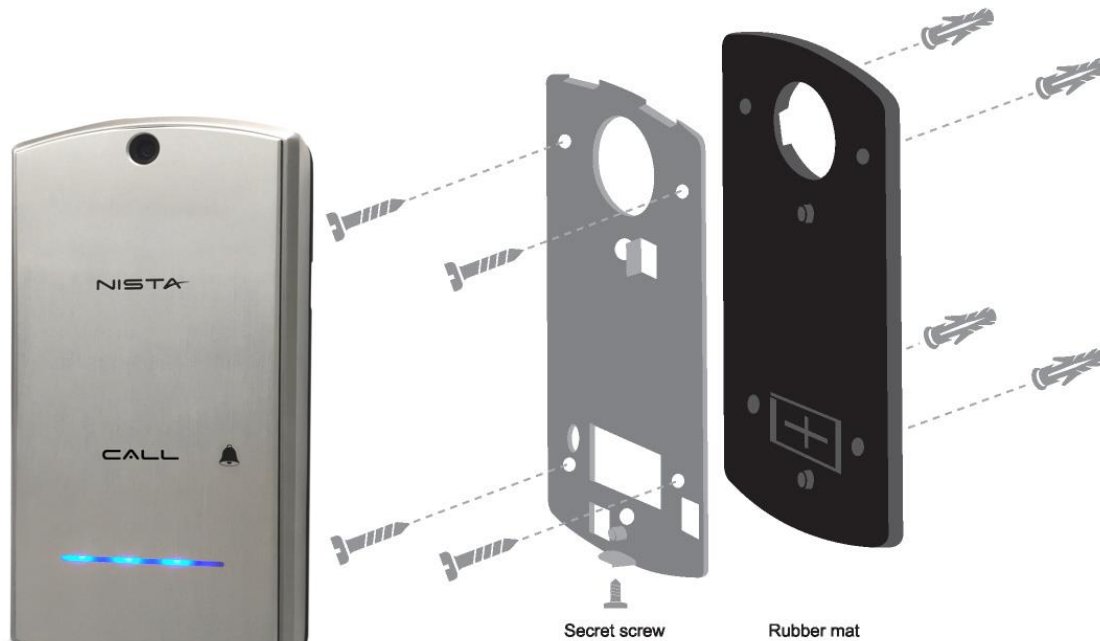

Figure 3-1 Door Phone wall installation
3. Place the rubber membrane on the wall and then metal unit base using the provided wall screws.(See Figure 3-1)